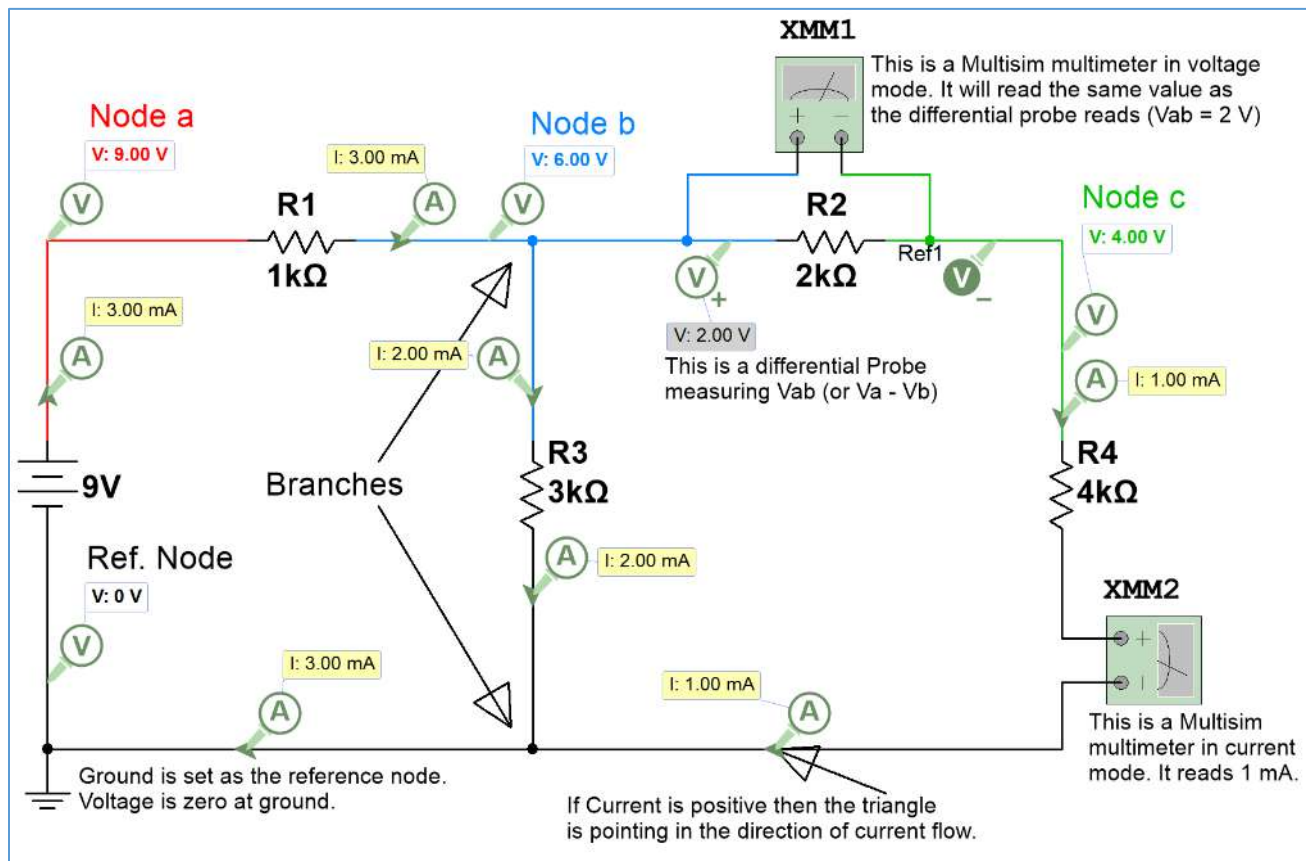
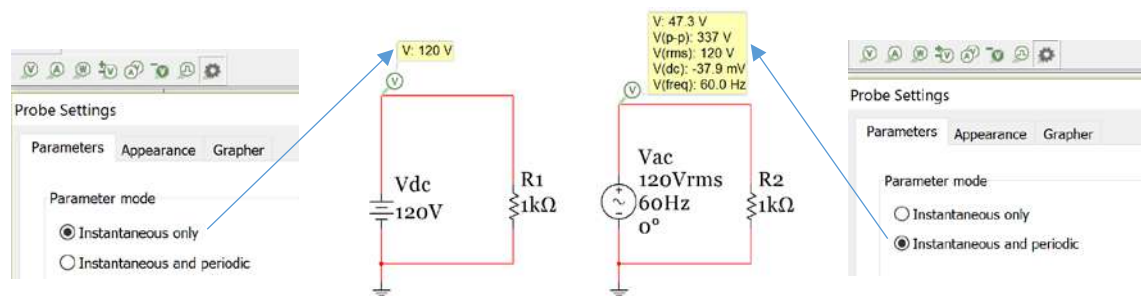
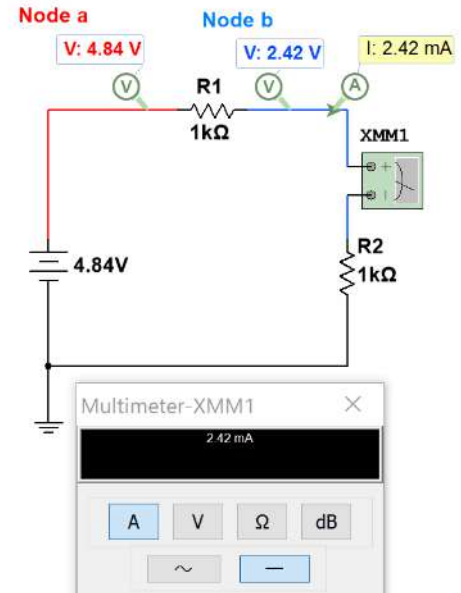

Figure 1.7: Circuit showing probes, Multimeters, branches, and nodes.
Figure 1.7a: Preferred probe settings for DC circuits (Left) and AC circuits (Right).
Figure 1.8: Circuit showing current measured with a Multimeter.
Before discussing current let's look at some statements about voltage. Figure 1.7 provides some visual explanations to these statements.
- Voltage is the same at all points on a node (a place shared by 2 or more circuit elements). For example, the blue line that represents Node b in Figure 1.7 is 6 V at every point on the blue line.
- When measuring voltage across one or more components with a Multisim Multimeter (see XMM1) you wire two different nodes to the + and – terminals and then double click on the meter and put it in Volts mode (V) and DC mode (straight line). XMM1 reads the voltage value across R2, which is also the value of Vab. Vab is the difference between node voltages Va and Vb. Vab is an example of **double subscript notation** ($V_{ab} = V_a - V_b$). Va is an example of **single subscript notation**. Va is the voltage at node a, and the reference is ground. When ground is not the reference for the measurement differential probes can be used to measure the voltage difference between nodes.
- Current doesn't change as it runs through components until it is split in a branch (see Figure 1.7). Voltage doesn't change at a branch unless it goes through a circuit element.
- When measuring current with a Multisim Multimeter (see XMM2 in Figure 1.7) you have to break the circuit and run it through the meter and then double click on the meter and put it in Amps mode (A) and DC mode (straight line). The same process is used to measure the current with an actual Multimeter as shown in Figure 1.8.
Note: In Figure 1.7 all of the probes only have I and V, but when the current and voltage probes are normally placed in Multisim the “Instantaneous and periodic” probe setting is the default so you will see 5 voltage measurements (as shown in Figure 1.7a). From top to bottom these voltage measurements are: 1-Instantaneous, 2-peak to peak (**Vpp**), 3-Root-Mean-Square (**Vrms**), 4-average (**Vavg**), and the 5-**frequency**. The average voltage is labeled V(dc) in the Multisim probe because Vavg is equivalent to the DC value. The instantaneous voltage is the value at a specific time and will continuously change as the AC current flows through the circuit. These four **additional parameters** for voltage or current are only used for AC circuits. When dealing with DC circuits there is only one type of voltage and current so only the instantaneous measurements are needed. To get only the DC current or voltage click on the probe settings and change the default to “Instantaneous Only” as shown in Figure 1.7a.
The circuit in Figure 1.8 shows a simple circuit with two resistors in series with a battery pack that has three AA batteries in it. You can see how one end of one of the resistors is pulled out of the breadboard to break the circuit and allow current to be measured with the Multimeter.
Example 1.8) using equation 1.6 solve for the current flowing through the R1 resistor in Figure 1.8.
Answer: Applying equation 1.6 to the circuit in Figure 1.8 yields: